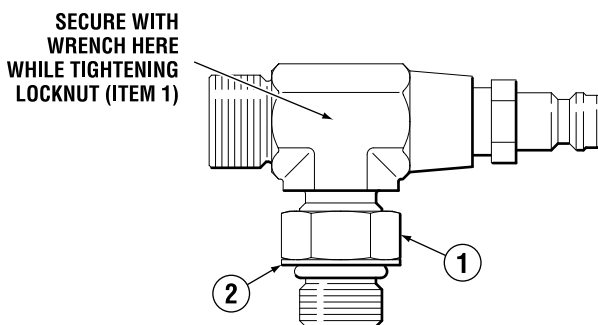

Figure 5-22. Re-orientable hose fitting.
1. Back off lock nut (item 1 in figure 5-22) counter-clockwise, until it stops.
2. Thread fitting into the cylinder port until the fitting washer (item 2) contacts the face of the cylinder port. Tighten hand tight. **DO NOT USE A WRENCH.**